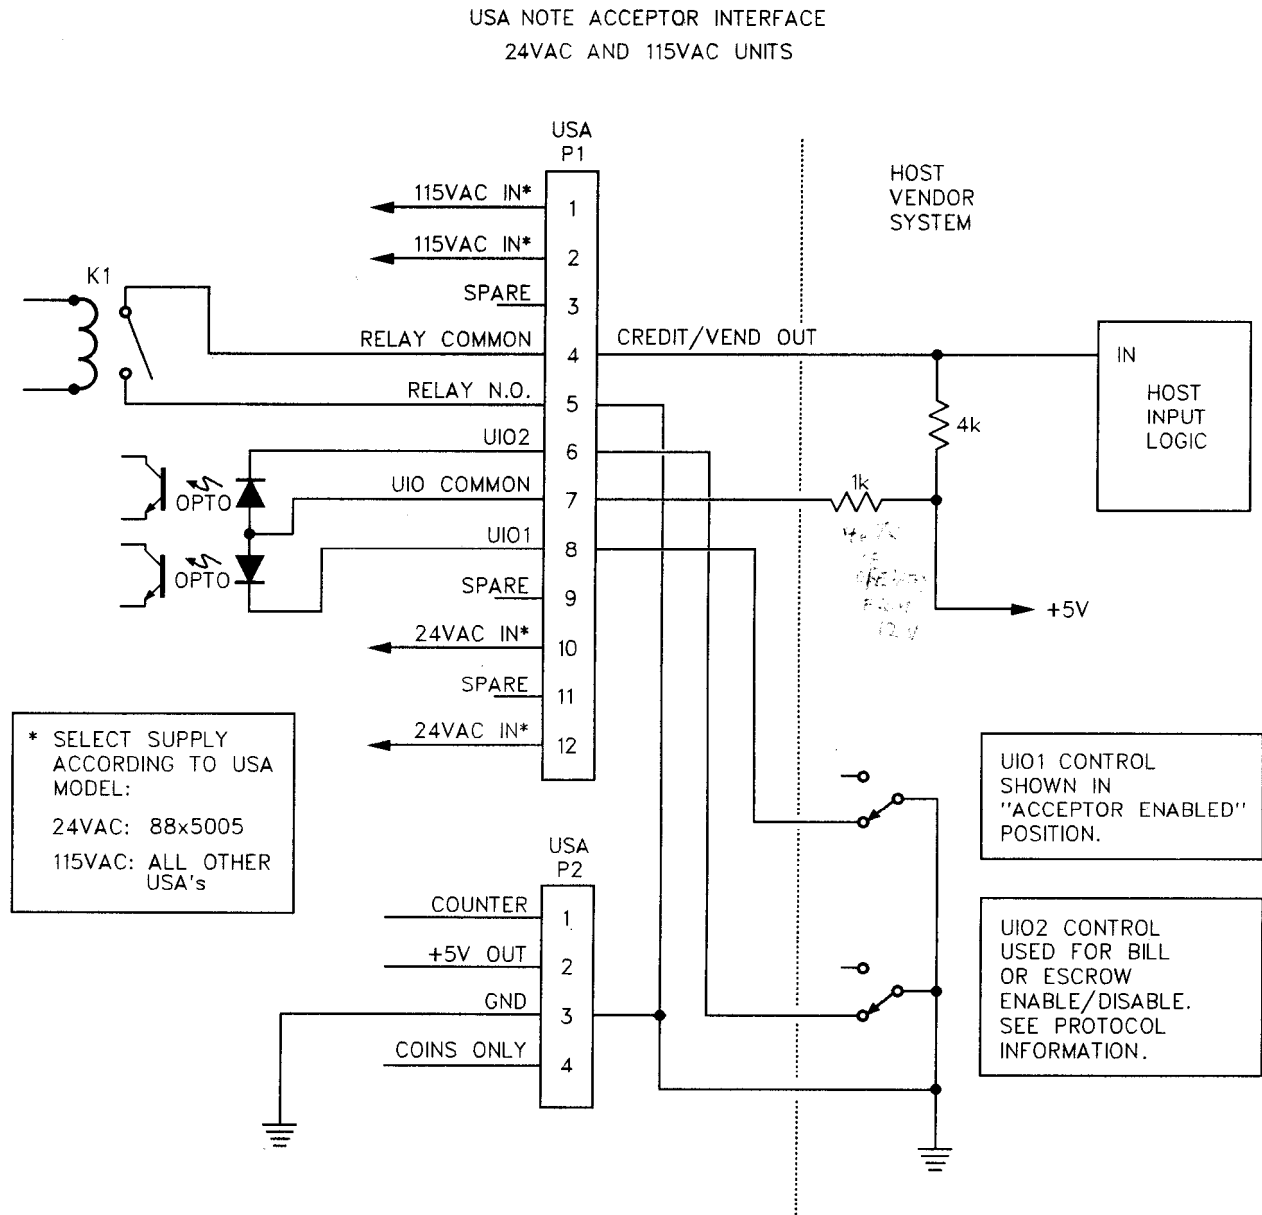

Figure 4-5. Typical Wiring of USA to Host Vendor System.
The basic circuit for the various USA connection schemes is shown in Figure 4-5. This figure shows the UIO1/UIO2 COMMON input connected to 5Vdc. This is the "low-level" protocol configuration. If UIO1/UIO2 COMMON is connected to 115Vac, the acceptor automatically senses the control level and reconfigures itself for "high-level" protocol.
2. Configured as shown in Figure 4-5, the acceptor takes only \$1 bills, and produces a single 30 millisecond vend pulse per dollar.